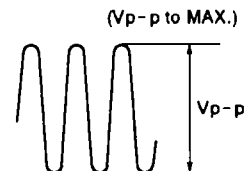

Fig. 3
- (1) Tuning to 600kHz, adjust L104 on the TUNER PCB ASSY for maximum output. (Fig. 3)
- (2) Tuning to 1400kHz, adjust TC102 for maximum output. (Fig. 3)
- (3) Repeat adjustments as necessary to L104 and TC102 for maximum output.